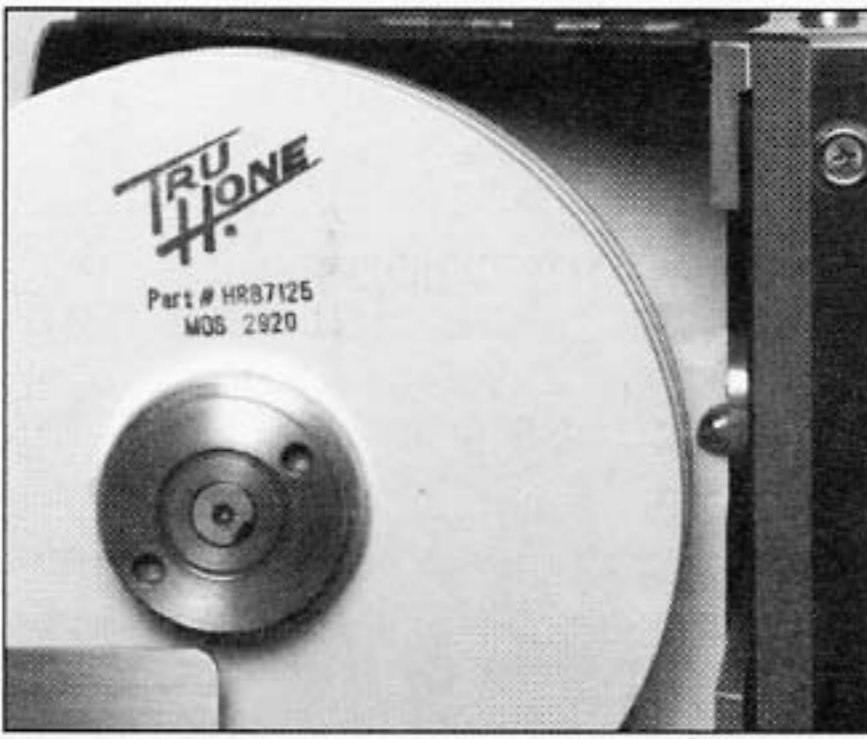
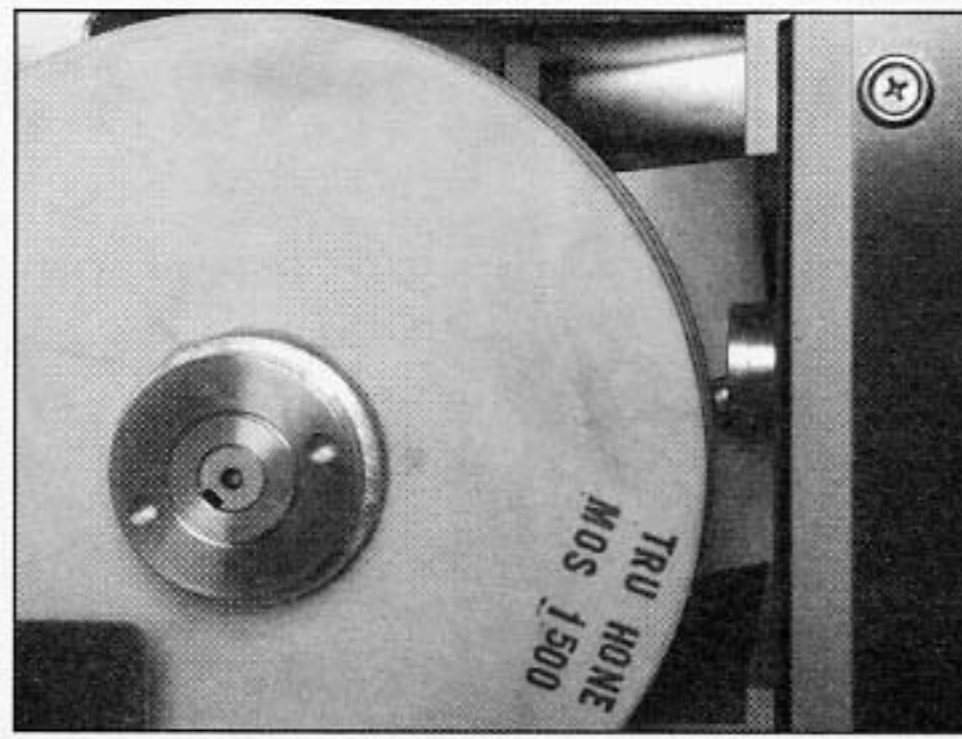
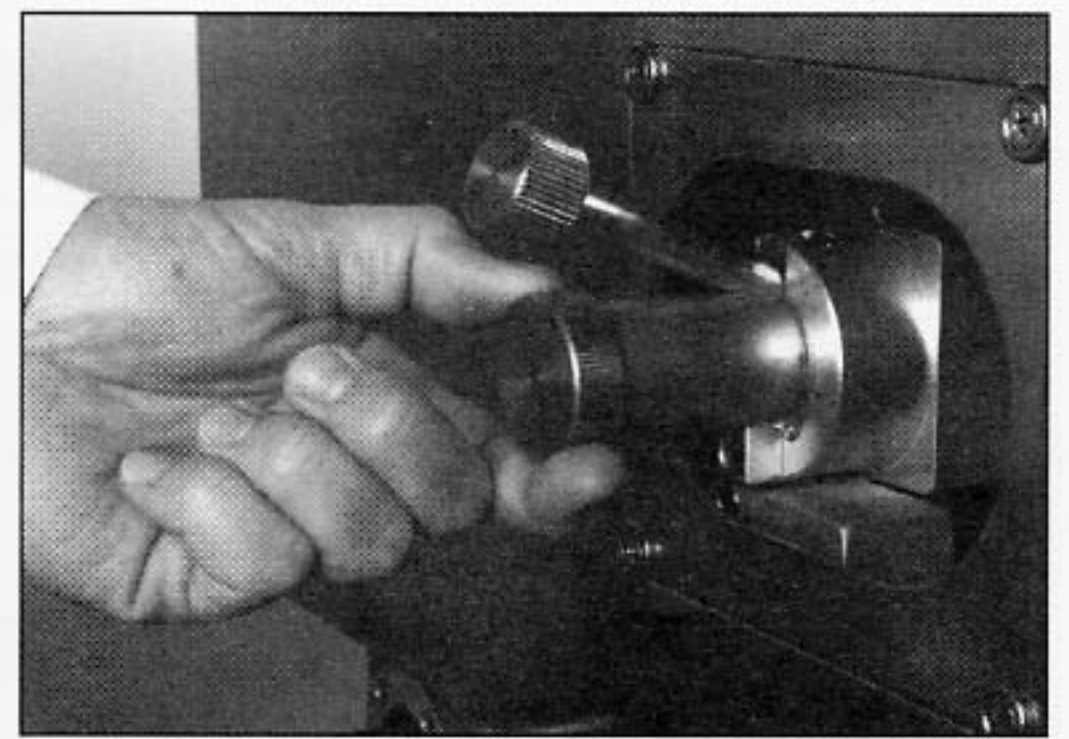

Fig. 11
Fig. 12
Fig. 13
1. Before dressing the Honing Wheels, visually inspect the end of each Diamond Dresser Bit to be sure it is clear of the Honing Hheels and in good condition (see fig. 11). If the Dresser Ram Assembly is turned in too far clockwise and the end of the Diamond Dresser Bit does not clear the Honing Wheels (see fig. 12), turn the Dresser Advancement Knob **COUNTERCLOCKWISE** (see fig. 13) until the end of the Diamond Dresser Bit is clear of honing wheels (see fig. 11).